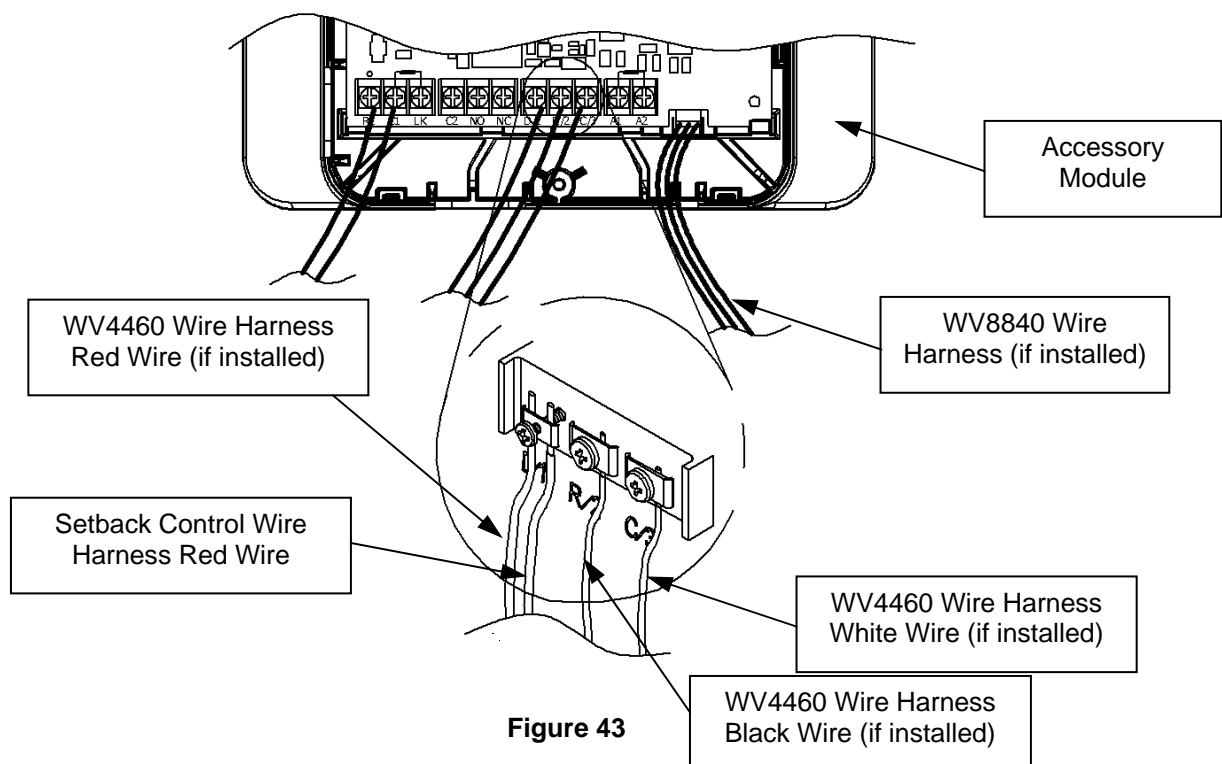

Figure 43
Step 16: Insert the red wire, from the Setback Control wire harness, under the screw labeled "D/1." If the water heater has a WV4460 gas control, the gas control wire harness red wire must be retained underneath this screw also. This is shown in Figure 43.